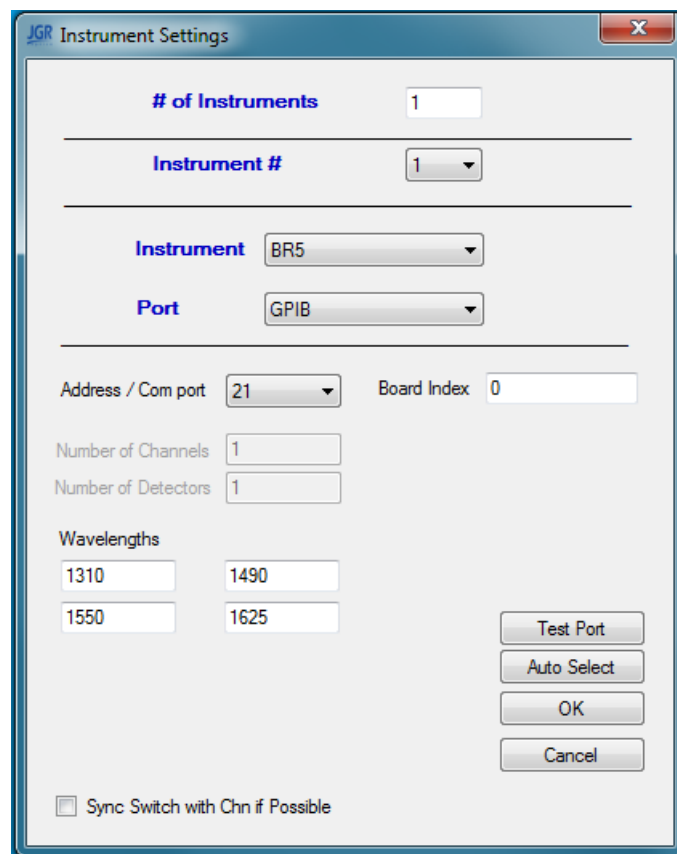

Figure 2.2: The Instrument Settings window for a BR5 connected via GPIB.
- The first step is to access the Instrument Settings window (Fig. 2.2), which can be done through the Settings Menu or by pressing Ctrl+I.